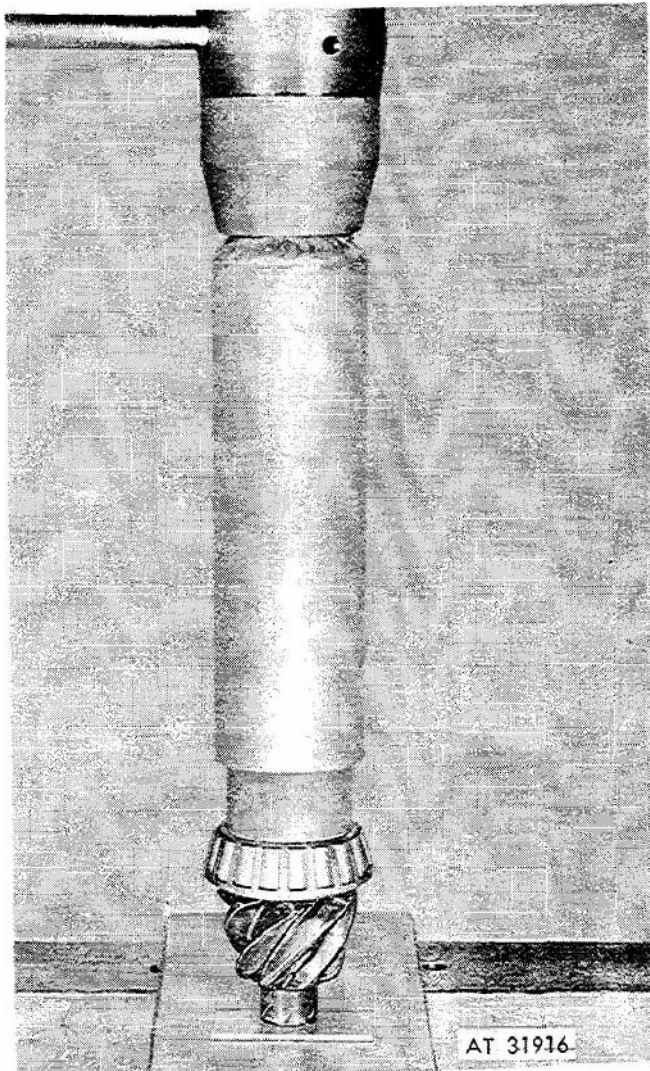
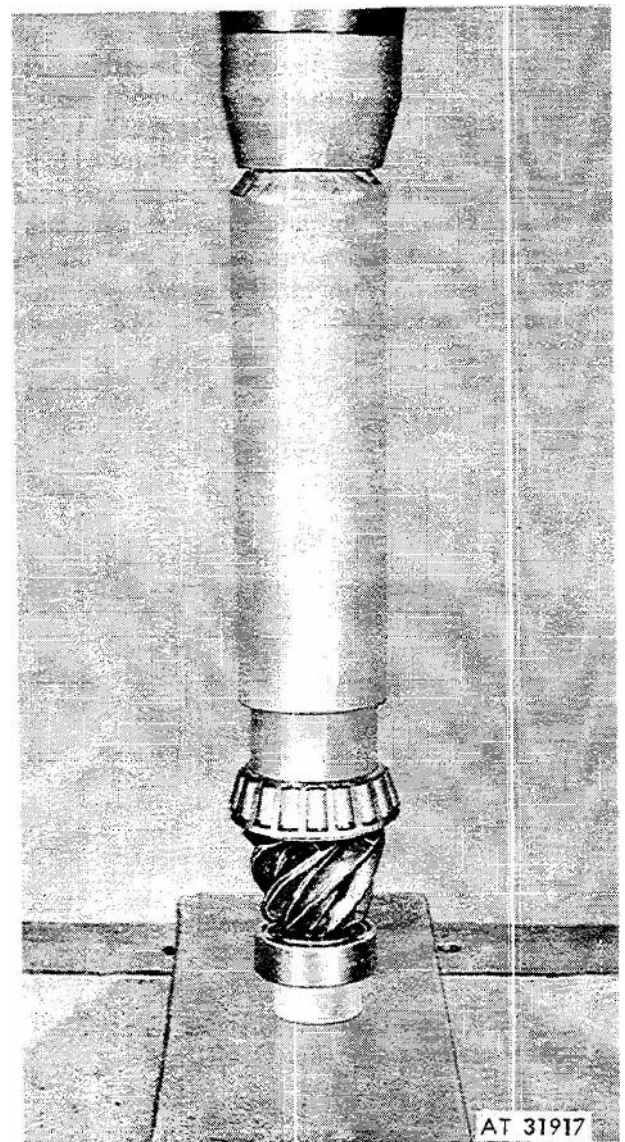

Figure 3-120. Pressing rear bearing onto pinion.
Figure 3-121. Pressing front bearing onto **pinion**.
(29) Press bearing (49, fig 3-88) onto pinion (53) as shown in figure 3-120. Press bearing (54, fig 3-88) onto pinion (53) and secure with retaining ring (55) as shown in figure 3-121.